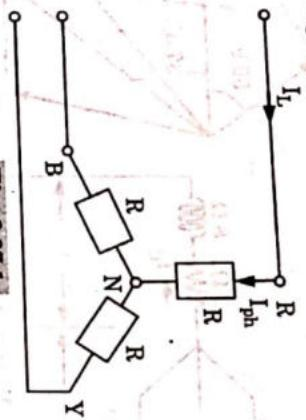

Fig. 2.37.1.
5. From the Fig. 2.37.1 of star-connected load it is clear that  $I_L = I_{ph}$ .